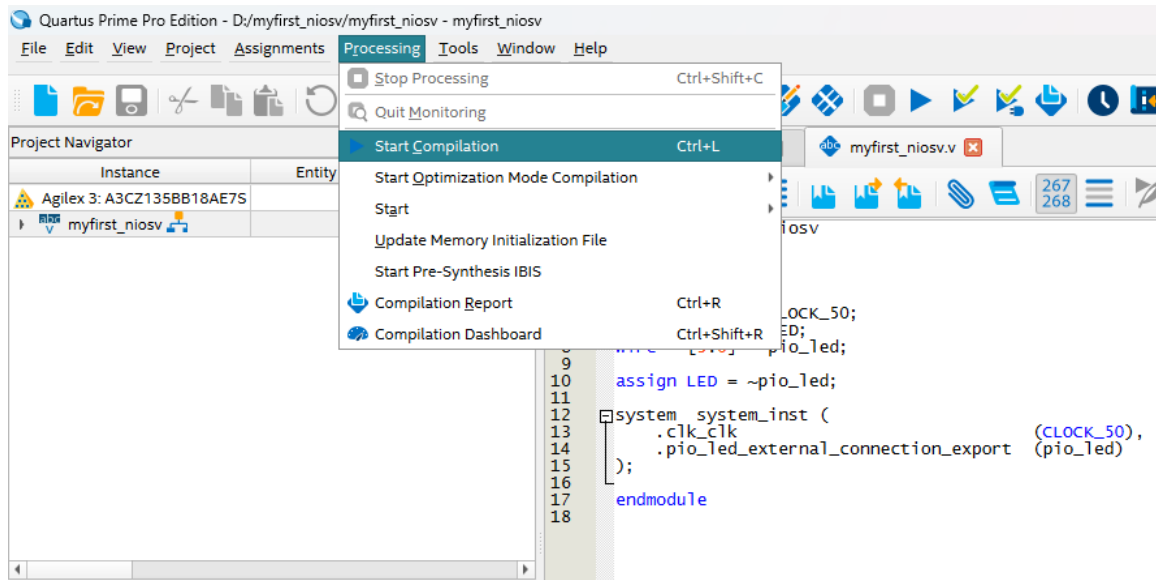
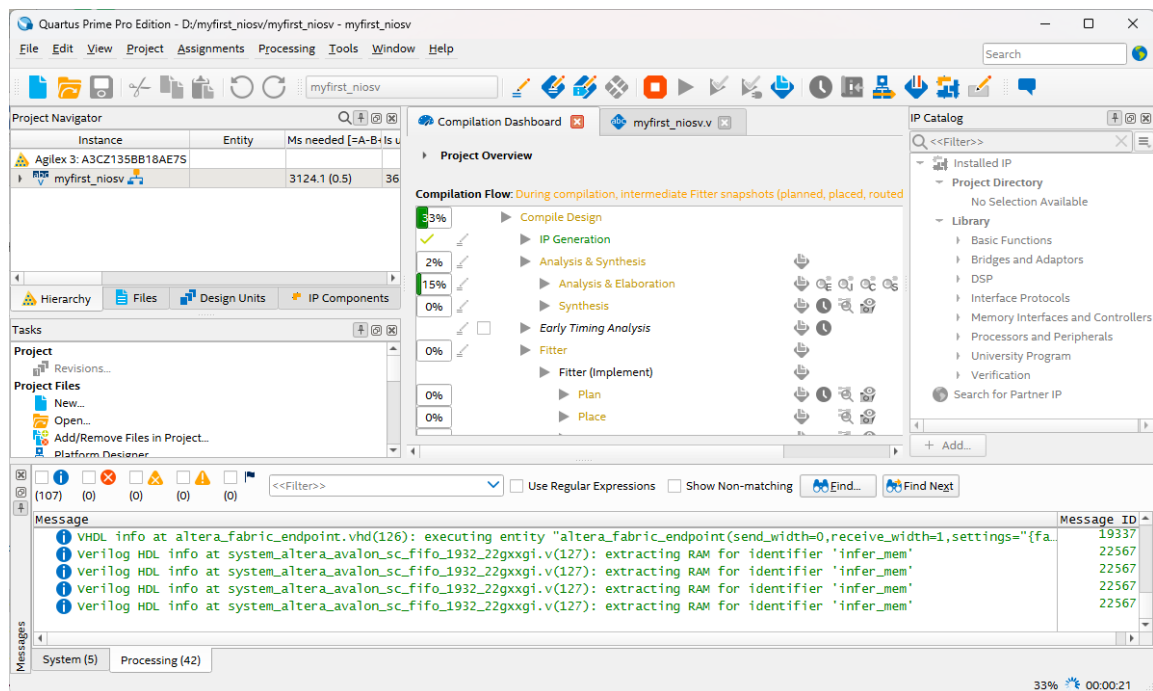

Figure 2-36 Start Compilation
Figure 2-37 Execute Compilation
1. Choose **Processing > Start Compilation** as shown in Figure 2-36. Figure 2-37 shows the compilation process.